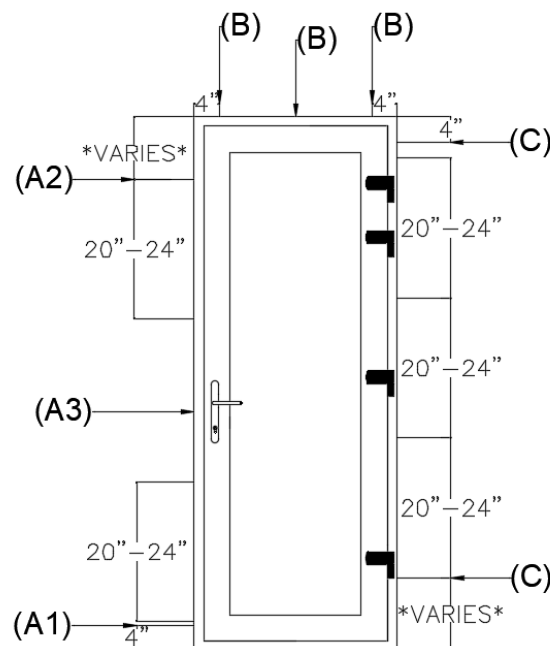

Figure 1
2. Locate brackets following Anchor Bracket Layout Diagram (Fig 1).
See Fig. 1
- (1) 4" from sill
- (2) Centered with opposite top hinge
- (3) Centered at strike plate
- d) Apply additional brackets evenly spaced at ~20-24" on center between straps on head and jambs (Fig. 1 Mark 5)
1. If desired, apply anchor brackets at locations A2 and C as shown in Figure 1. These brackets can be used to temporarily secure door to rough opening while shims and support blocks are applied and adjustments are made.